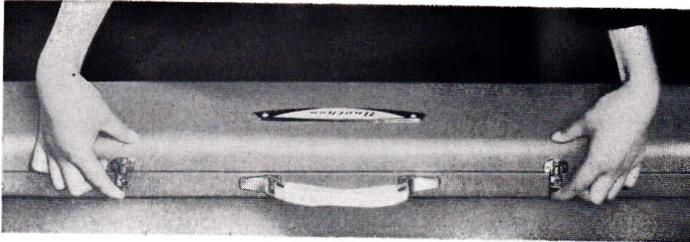

Fig. 2
- a. Unlock the locks on both sides of the handle. (See Fig. 2)